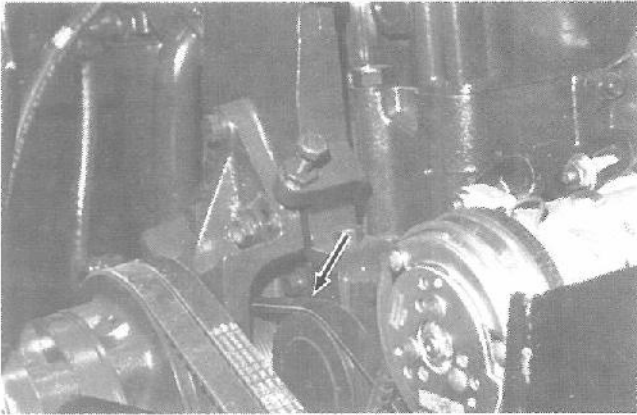

Figure 51: Water Pump Idler
Engine Water Pump Belts (Fig. 51)
1. Loosen the capscrews and lockwashers or locknut securing the idler pulley to the bracket or water pump (Fig. 51).